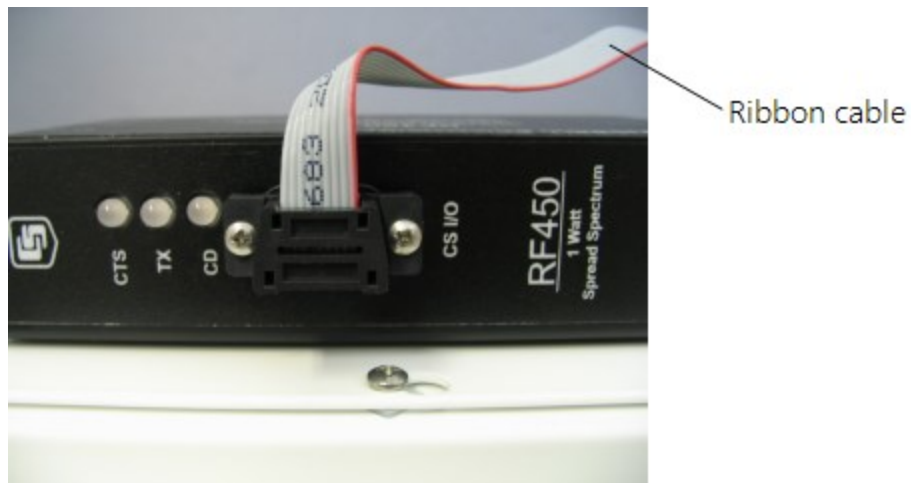

FIGURE 6-27. Attach ribbon cable to radio CS I/O port
5. Screw the connector to the radio using the provided two screws (FIGURE 6-27 (p. 45)).